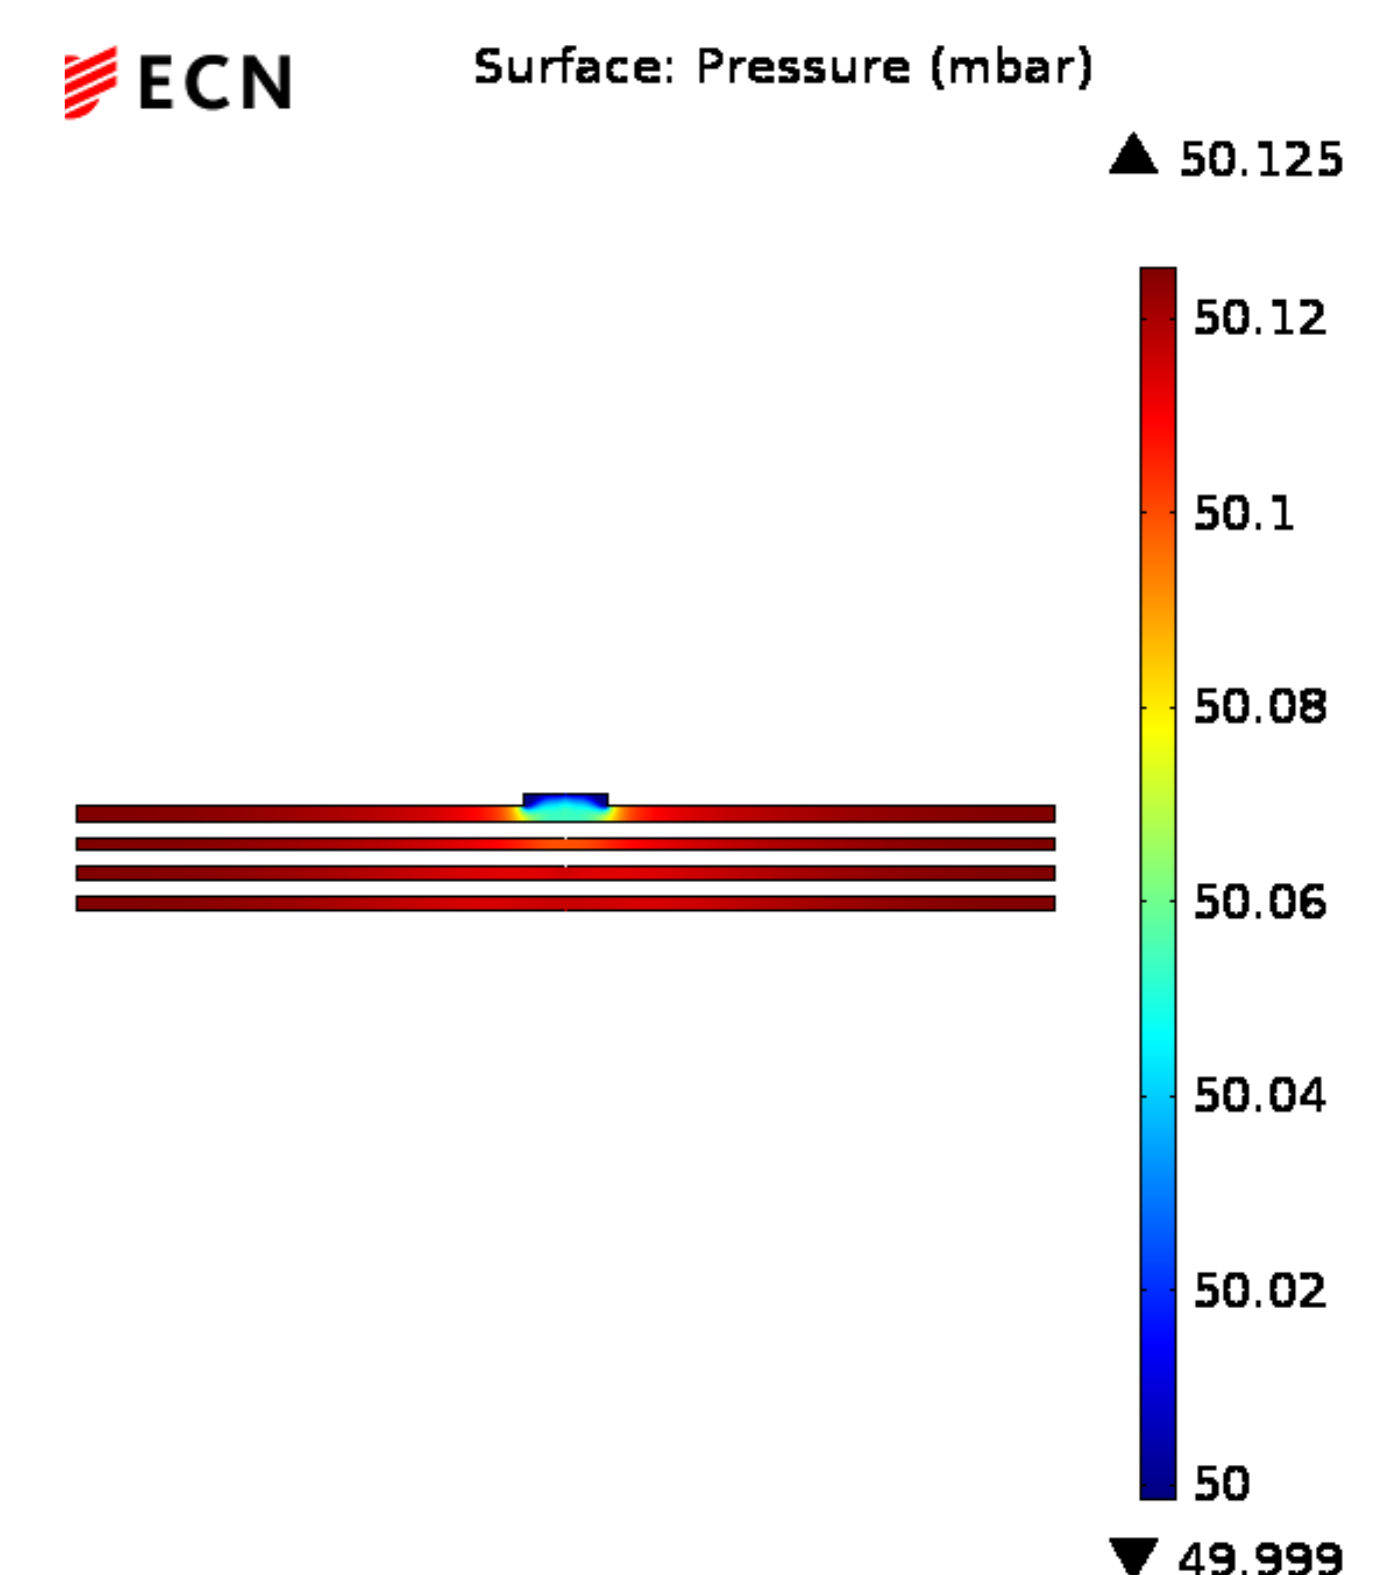

Figure 4. Pressure 7x4
- Pressure drop 0.1 mbar (Fig. 4)